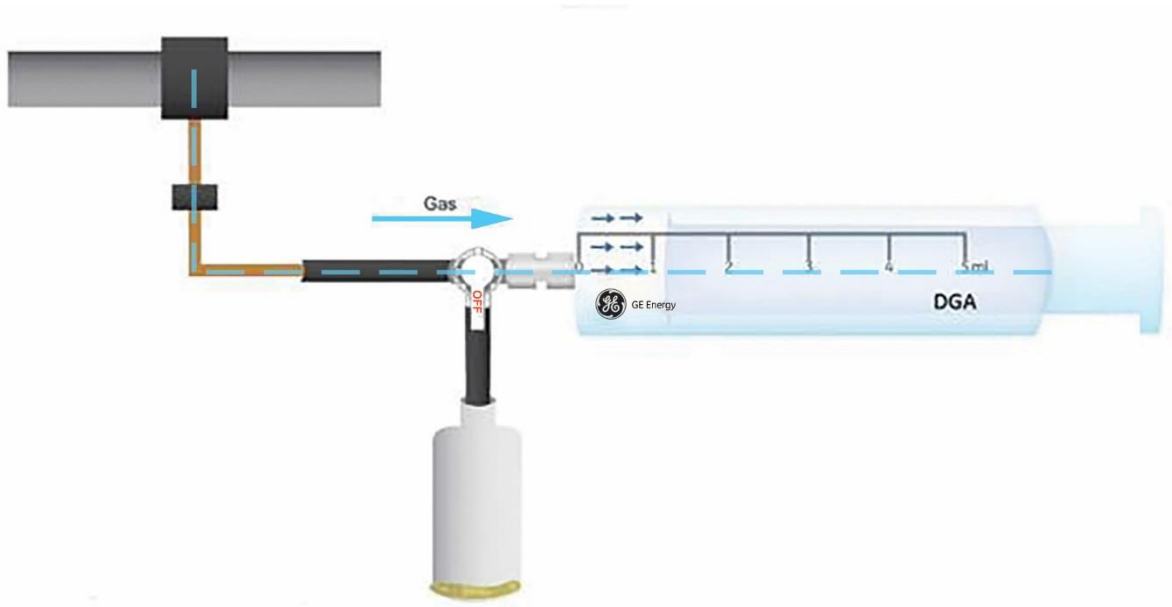

Figure 9-2: Gas fills the syringe
3. When gas starts to flow, adjust the three-way stopcock to allow the gas to fill the syringe by the hydrostatic pressure in the relay, as shown in Figure 9-2, taking care that the gas pressure does not eject the plunger completely.